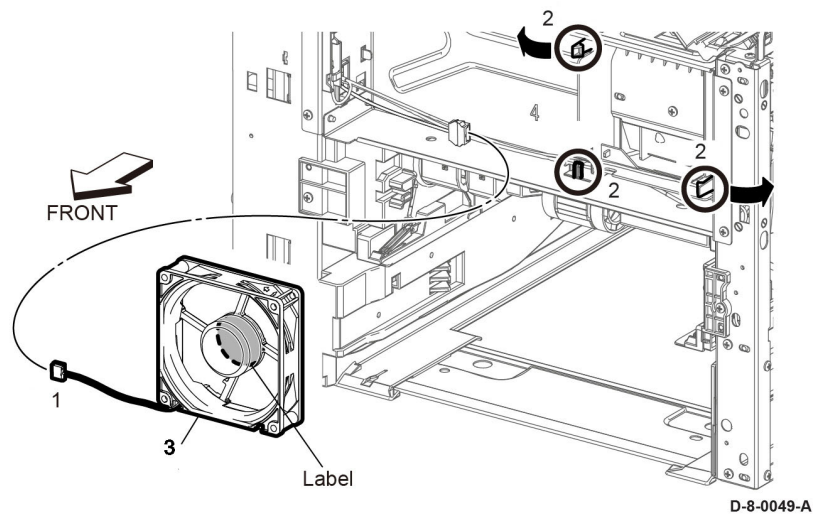

Figure 1 Sub fan removal
10. Remove the sub fan, Figure 1:
- a. Disconnect P/J249 (1), then release the harness from the harness guide.
- b. Release three hooks (2), then remove the sub fan (3).